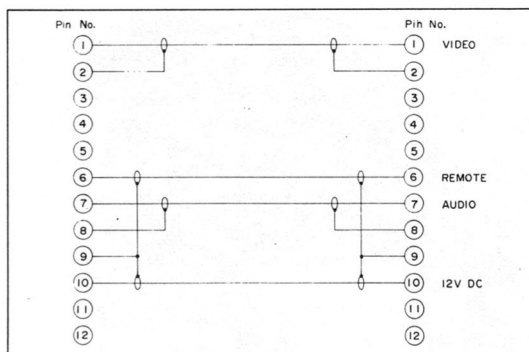

Fig 3.30 Extension Cable Part No. 3V08B Wiring Diagram
- (3) Part No. 3V08B, being an extension cable 10m (33ft) in length and equipped with a 12-pin socket at one end, for connection to cable Part No. 01X0-016-214, and a 12-pin plug at the other, for connection to the camera. The cable wiring diagram is provided by Figure 3.30.